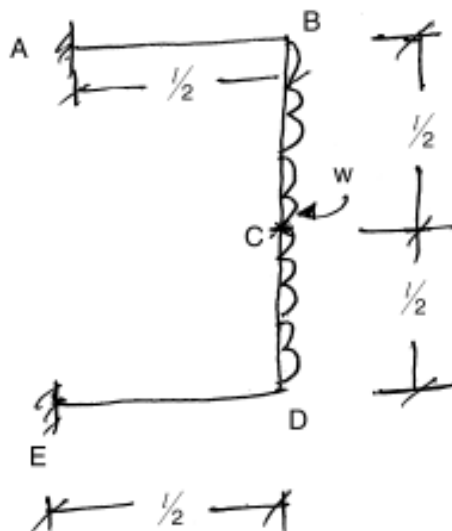

Figure 2
2. Draw SFD and BMD for the beam curved in plan as shown in figure 2. Assume ratio of flexural rigidity to torsional rigidity as 1.25. Also find max deflection in the beam i.e. at point C. 12